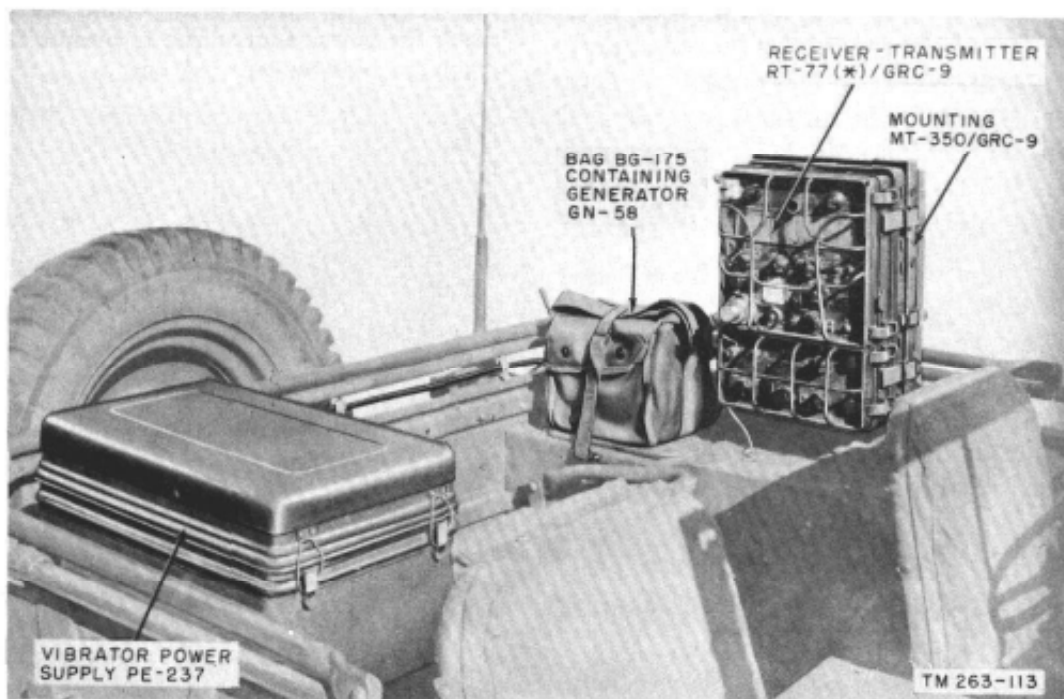

Figure 34. Typical vehicular installation of radio set.
34. Vehicular Installation of Radio Set (fig. 34)
- (1) Bolt the vibrator power supply (fig. 34) to a horizontal surface, leaving clearance to permit free movement of the power unit on its shock mounts. The location should be selected to permit the power cables to reach the vehicle power terminal box and to permit Cord CD-1086 to reach the receiver-transmitter (fig. 34).